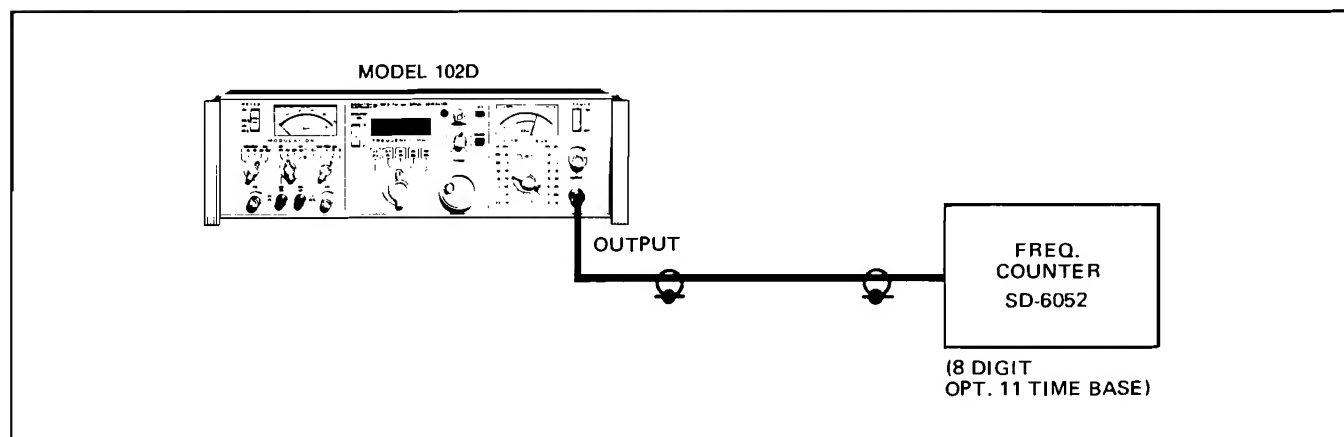

Figure 2-16 Frequency Accuracy and Locked Frequency Stability Checks, Test Setup
a. Connect the Model 102D and test equipment as shown in Figure 2-16.